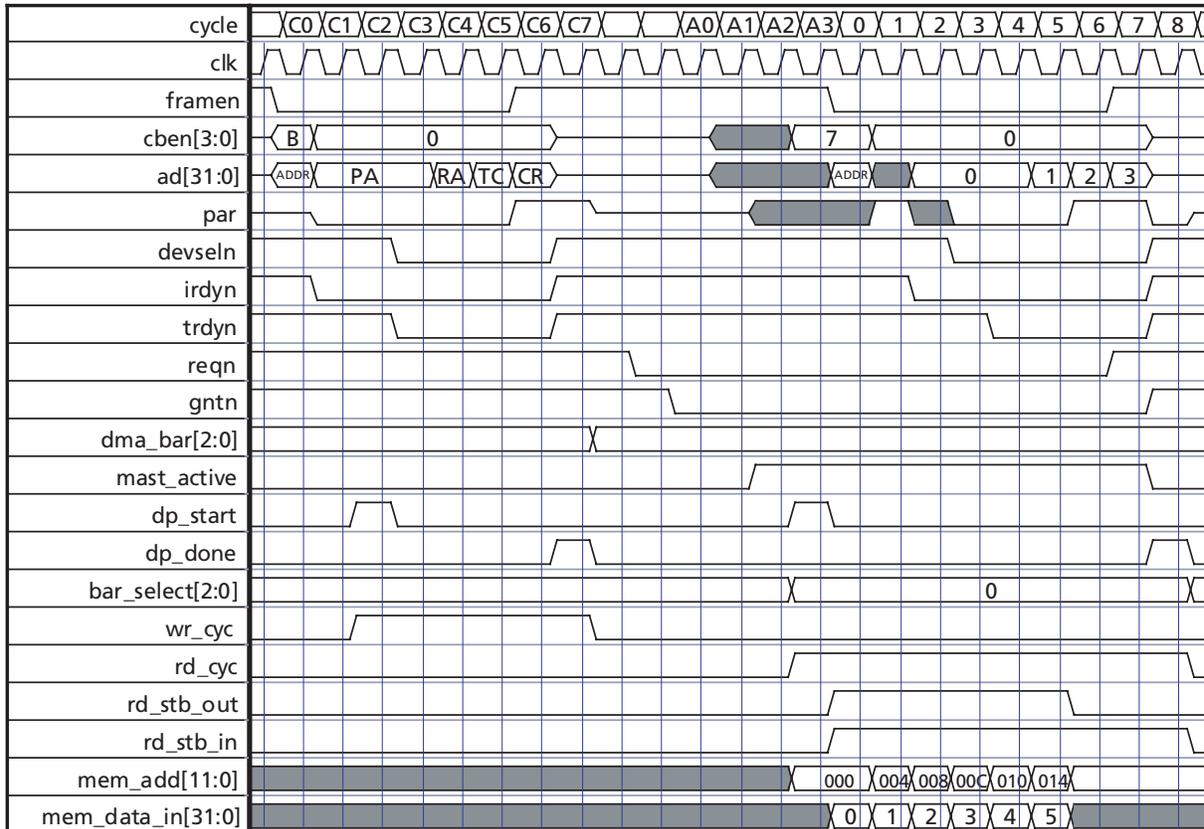

Figure 6-33 · DMA Burst Read Cycle Including DMA Start Sequence
Initially, a PCI Master writes to the four DMA control registers (cycles C0 to C7 in Figure 6-33). Three clock cycles after the control register (CR) is written, the core will assert its PCI request REQN. When the PCI arbiter grants the bus and the bus is idle, several clock cycles later the core will initiate a PCI cycle asserting the MAST\_ACTIVE output. See cycle A2 in Figure 6-33.